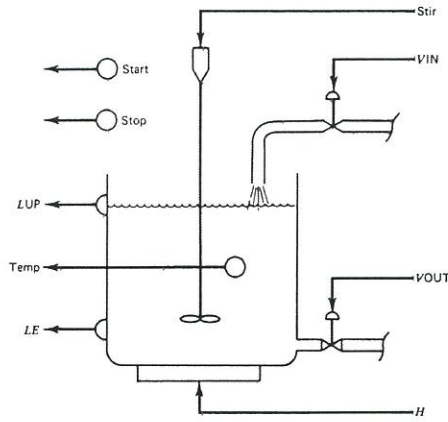

Figure Q4(b)
- (b) Prepare the physical and programmed ladder diagram for the control problem shown in **Figure Q4(b)**. The global objective is to heat a liquid to a specified temperature and keep it there with stirring for 30 min. The hardware has the following characteristics: